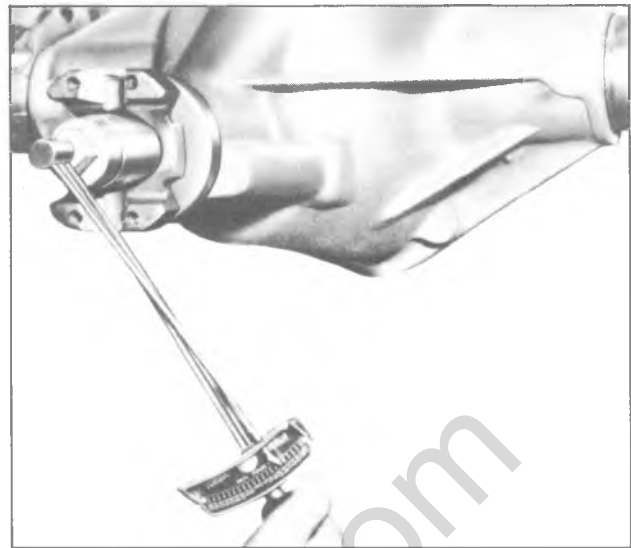

Fig. 4B-24—Measuring Pinion Rotating Torque
7. Thread pilot end of Tool J-8614-3 into small O.D. end of J-8614-2. Then with J-8614-11 installed as in Step 6, insert J-8614-2 into J-8614-11 and turn it 45 degrees to locked position. Remove flange by turning J-8614-3 while holding J-8614-11 as shown in figure 4B-27.